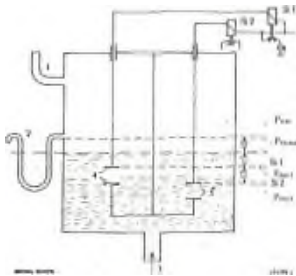

Fig. 5 (Water-level Monitoring Tank)
- 10 - Water-level monitoring tank (Fig. 5)
Mode of Operation of the Water-level Monitoring Tank (Fig. 5):